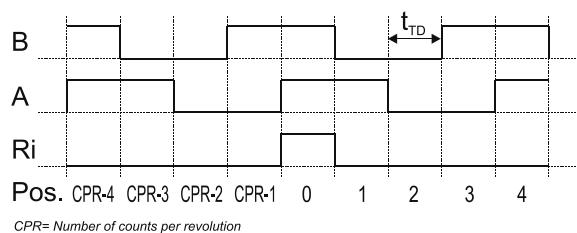

Fig. 5: Timing diagram for incremental output
** See Figure 5. Charts are for highest values of oscillator frequency ($f_{osc} = 83$ MHz).
Figure 5 shows the timing diagram of A, B and Ri signals with CW rotation of the magnet and positive counting direction. B leads A for CW rotation. The counting direction can be changed by swapping the A and B signals or by programming the EEPROM with negative counting direction settings.